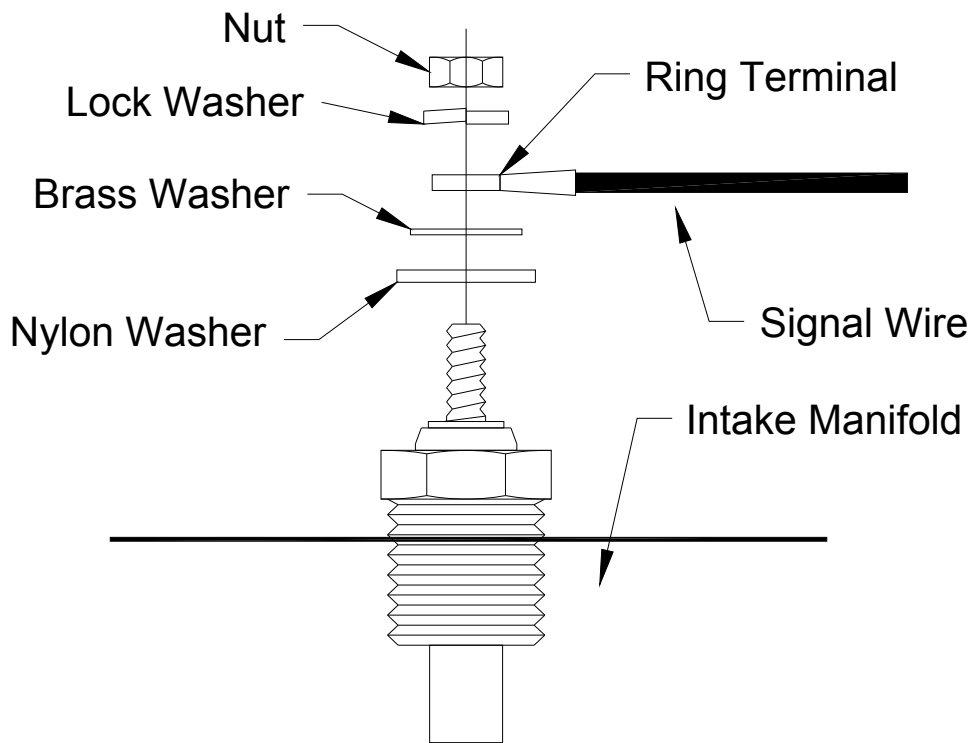

Figure 4: Connecting the temperature sender
- 2) Connect the temperature sender to the **dark green** wire on the signal connector (position A) of the instrument wire harness. See Figure 4 below.